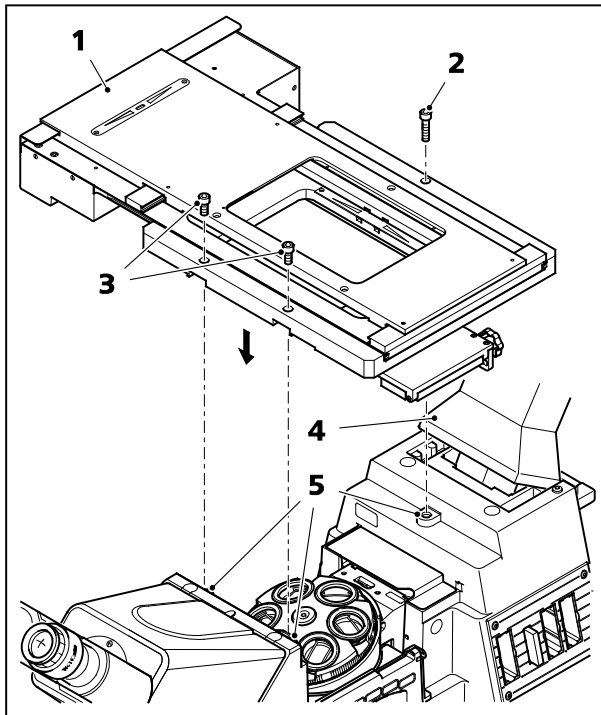

Fig. 27 Fitting the scanning stage 130x100 MAT; CAN
- To improve access during stage assembly, the carrier for transmitted-light illumination (Fig. 27/4) (if fitted) can be tilted backwards.
- Place scanning stage 130x100 MAT; CAN (Fig. 27/1) on the three contact points (Fig. 27/5) of the stand and fix it in position using three Allen screws (two at the front (Fig. 27/3), one at the rear (Fig. 27/2)).